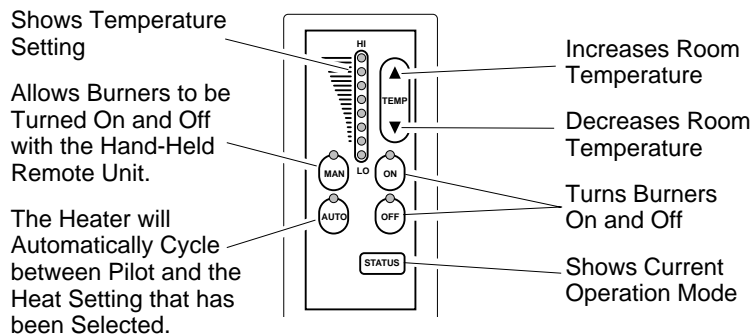

Figure 59 - Hand-Held Thermostat Remote Control Unit Selections (GHRCT Only)
- 2b. Select the MAN (manual) or AUTO button on the hand-held remote control unit (see Figure 59).